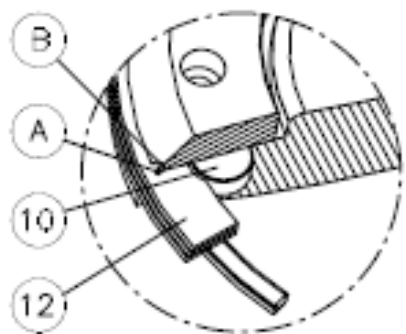

Figure no. 6a
- solution 1 - ref. to figure no. 6a - align the internal slot of the seal ring (12) to the reference pin (10).
- solution 1 - ref. to figure no. 6a: make sure that the slot on the edge of the seal retainer ring (B) is in correspondence with reference pin (10).